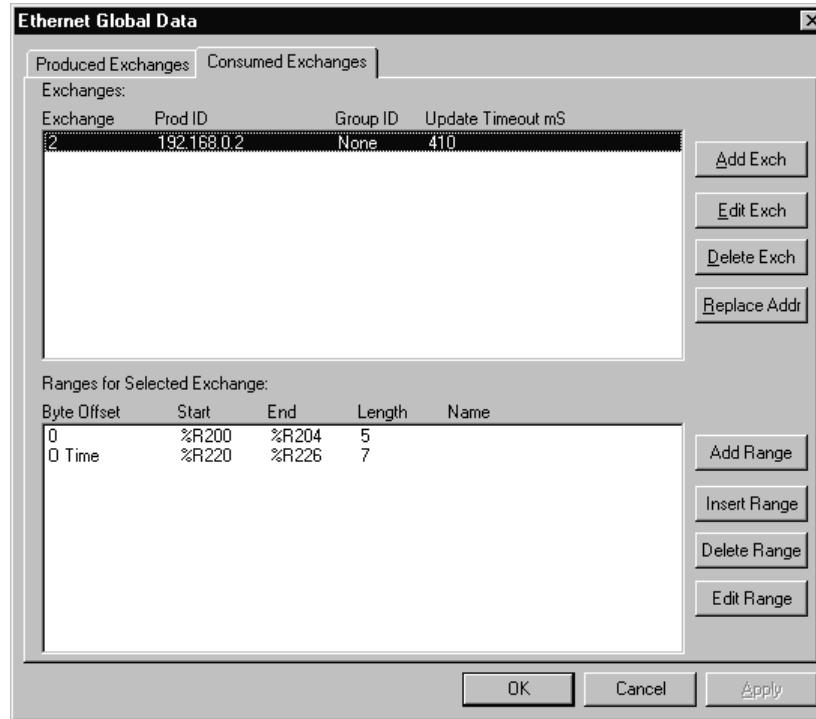

Figure 6.24 – Consumed Exchange 2 with Data and OCS Timestamp Blocks – Node 1
At this point, the Consumed Exchanges tab in the EGD Configuration dialog should be as shown in Figure 6.24.
1. Referring the Figure 6.24, highlight Exchange 2 in the upper window, highlight the first entry in the lower window, and click on the **Edit Range** button. Change the Data Block into a Filler Block, by editing the parameters as shown in Figure 6.25a below, and then click **OK**.